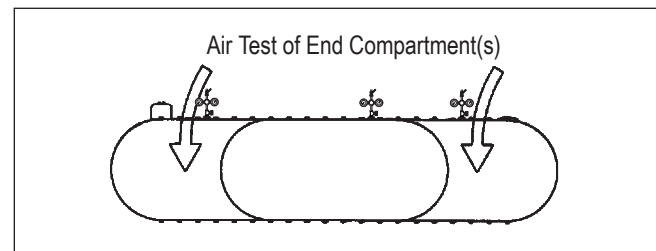

FIGURE 4-3
4.5.3. Pressurize the end compartment(s). See *SECTION 3.5* and *FIGURE 4-3*.